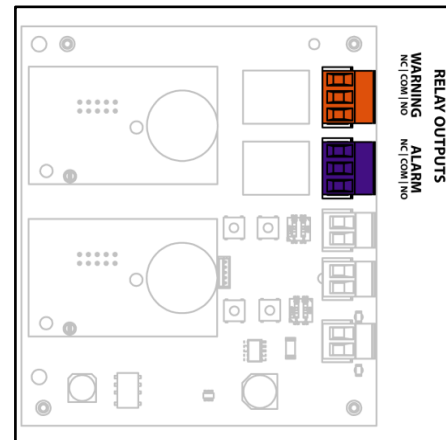

Figure 4: Relay Outputs
The detector has two SPDT dry-contact relay output terminals (shown in Figure 4). The relay connections have three-terminal screw connectors that allow devices to be wired to the detector in either normally-open (NO) or normally-closed (NC) configuration. These outputs are activated when ambient air concentrations rise above the sensor threshold settings (refer to *Section 4.3* for more information).
3. Connect the power source voltage for the device being attached to the detector's relay output to either the *NO* or *NC* location of the screw terminal (Figure 4).